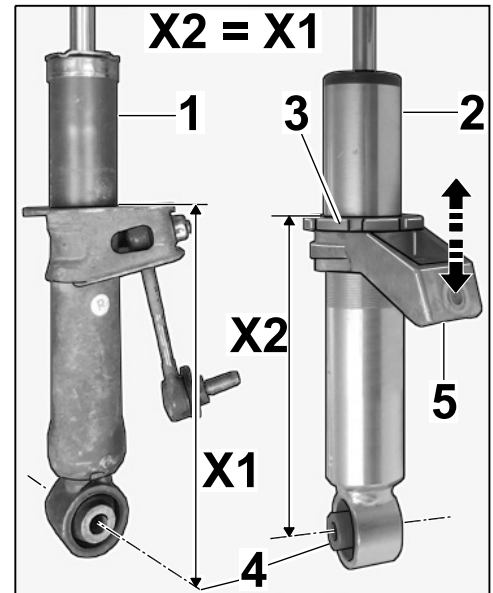

Figure 8
3.2 Adjust dimension X2 (spring plate – lower/bushing for shock absorber ⇒ *Figure 8-X2-*) in accordance with dimension X1 (standard spring strut).